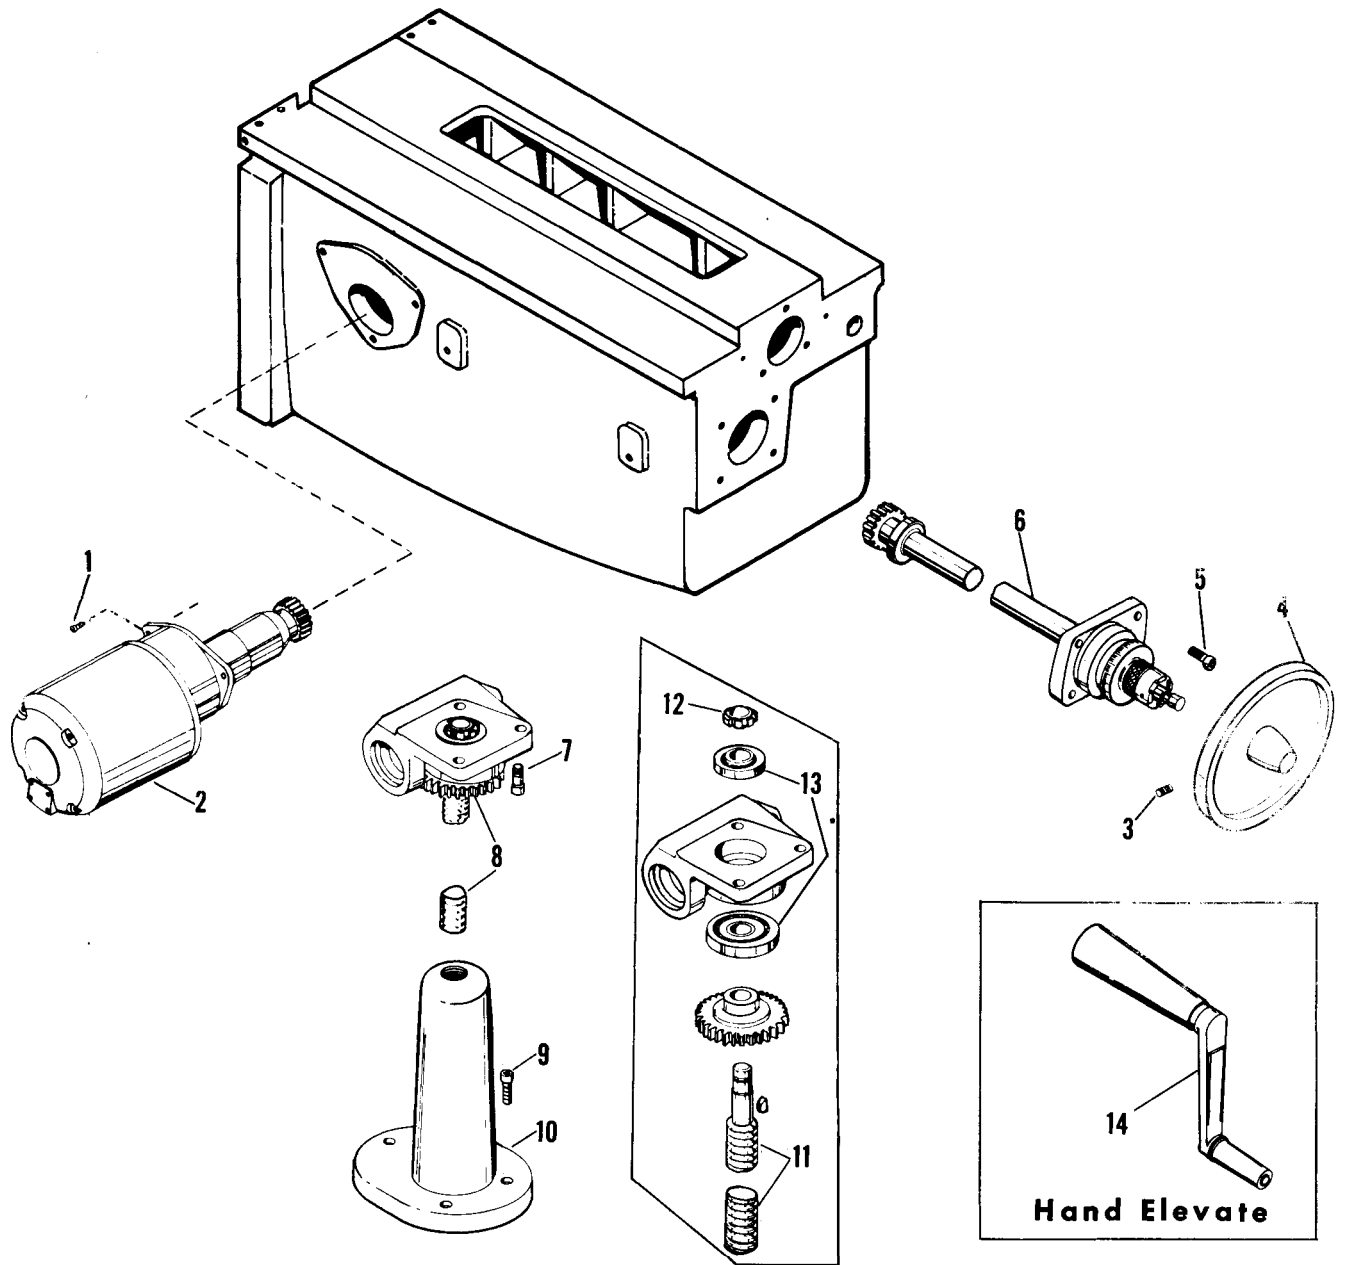

Figure 6. Elevate Feed Screw Nut And Bearing, Power and Manual Elevate
22. ELEVATE FEED SCREW, NUT AND BEARINGS POWER ELEVATE (figure 6)
2. Take out the three screws (1) holding the power elevate assembly and slide out the complete power elevate assembly (2).
3. Loosen the setscrew (3) in the cross feed handwheel and remove the handwheel (4).
5. Take out the three capscrews (5) holding the manual elevate assembly (6) and remove the complete assembly.
6. Remove the three screws (7) holding the elevate gear bracket assembly (8) in knee. These screws can be reached through access hole in bottom of knee.
7. Remove the two screws (9) and rotate the elevate screw (11), clockwise, looking down from the top, until the elevate gear bracket, elevate screw and nut can be removed.
8. Unscrew the elevate nut (10) from the elevate screw (11).
9. Remove the locknut (12) and remove the elevate screw (11) from the gear and bearing assembly.
10. Access holes are provided so the two tapered roller bearings (13) can be tapped out.
23. ELEVATE FEEDSCREW, NUT AND BEARINGS MANUAL ELEVATE (figure 6)